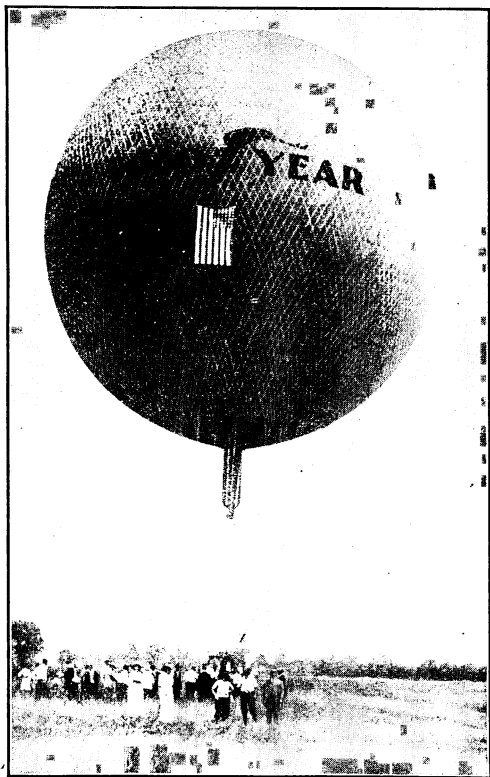

FIG. 48.—Winner of international championship race, Paris, 1913.
The Balloon (Fig. 48) rises because it weighs less than the air it displaces, and therefore it is pushed up by the heavier air, the "lifting power" being the difference between its weight and that of the air displaced. The
20. The balloon "Goodyear" (Fig. 48), which won the International championship race at Paris in 1913, has a capacity of 80,000 cu. ft. The gas bag weighs 653 lbs., the net 240 lbs. and the basket 92 lbs. How large a load can it carry when filled with hydrogen specific gravity 0.069 (compared with air).